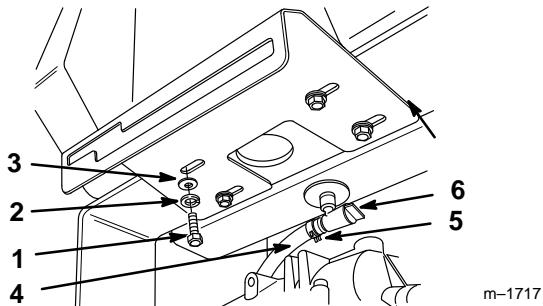

Figure 3
- Secure control panel and fuel tank to rear frame with (4) 7/8 in. (22.5 mm) bolts, lock washers and washers (Fig. 3).
- Slide hose clamp onto fuel line (Fig. 3). Push fuel line onto fuel tank fitting and secure with hose clamp (Fig. 3).